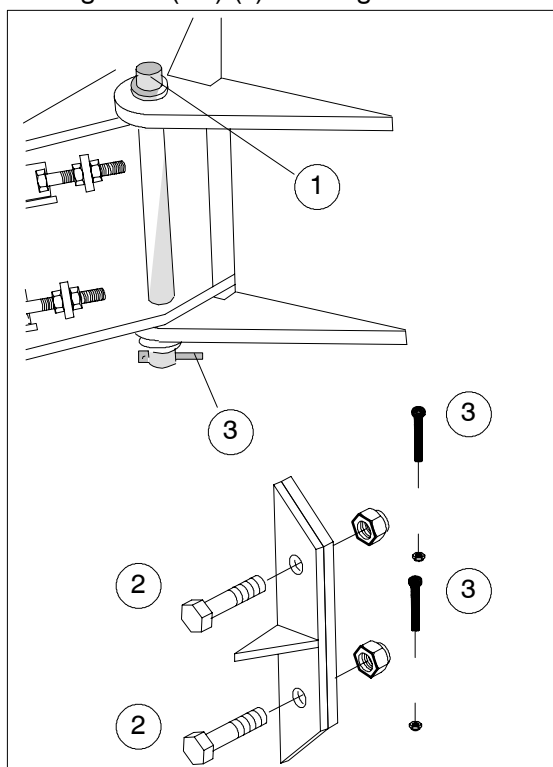

Fig. 4. Mounting the feeder.
1. Attach the feeder to the chipper from the left side with the hinge pin (1) and from the right side with two bolts (M12) (2). Remember to install the securing bolts (M6) (3). See Fig. 4.